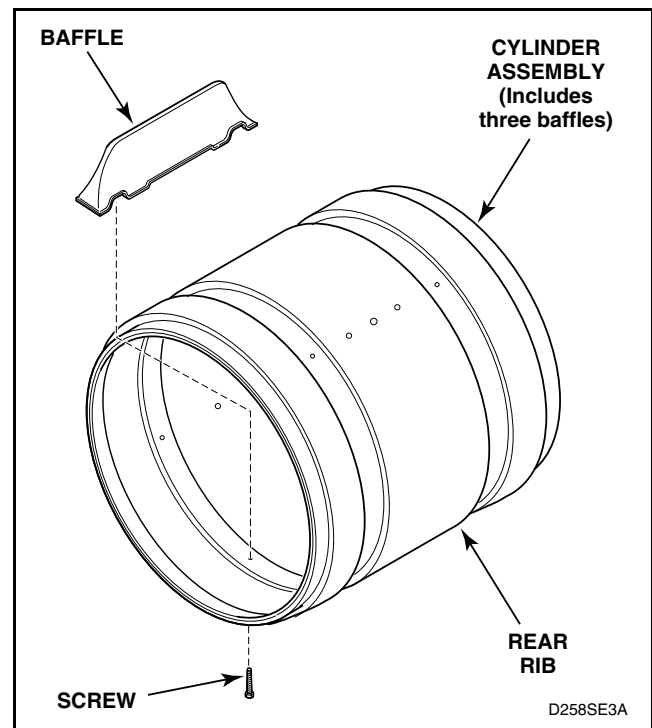

Figure 38
NOTE: When reinstalling belt, be sure belt is properly installed on motor and idler pulleys, and is on the correct side of the idler lever. Refer to *Figure 29*. Belt must be positioned around center section of cylinder approximately three inches ahead of rear rib on cylinder. Refer to *Figure 38*. After installing belt, manually rotate cylinder counterclockwise to check that belt is properly aligned.
NOTE: When reinstalling belt, be sure belt is properly installed on motor and idler pulleys, and is on the correct side of the idler lever. Refer to *Figure 29*. Belt must be positioned around center section of cylinder approximately three inches ahead of rear rib on cylinder, with the ribbed surface of the belt against the cylinder. Refer to *Figure 38*. After installing belt, manually rotate cylinder counterclockwise to check that belt is properly aligned.
- Baffles – Remove screws holding baffles to cylinder. Refer to *Figure 38*.
NOTE: When reinstalling belt, be sure belt is properly installed on motor and idler pulleys and is on the correct side of the idler pulleys. Refer to *Figure 29*. Belt must be positioned around center section of cylinder approximately three inches ahead of rear rib on cylinder with the ribbed surface of the belt against cylinder. Refer to *Figure 38*. After installing belt, manually rotate cylinder counterclockwise to check that belt is properly aligned.
NOTE: When reinstalling belt, be sure belt is properly installed on motor and idler pulleys and is on the correct side of the idler pulleys. Refer to *Figure 29*. Belt must be positioned around cylinder approximately three inches ahead of rear rib on cylinder with the ribbed surface of the belt against the cylinder. Refer to *Figure 38*. After installing belt, manually rotate cylinder counterclockwise to check that belt is properly aligned.